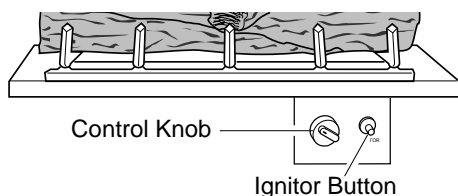

Figure 29 - Control Knob and Ignitor Button Location
3. Turn control knob clockwise  to the OFF position. (see Figure 29, page 16)
4. Wait five (5) minutes to clear out any gas. Then smell for gas, including near the floor. If you smell gas, **STOP!** Follow "B" in the safety information, column 2. If you don't smell gas, go to the next step.
5. Slightly depress and turn control knob counterclockwise  to the PILOT position. Press in control knob for five (5) seconds (see Figure 29, page 16).